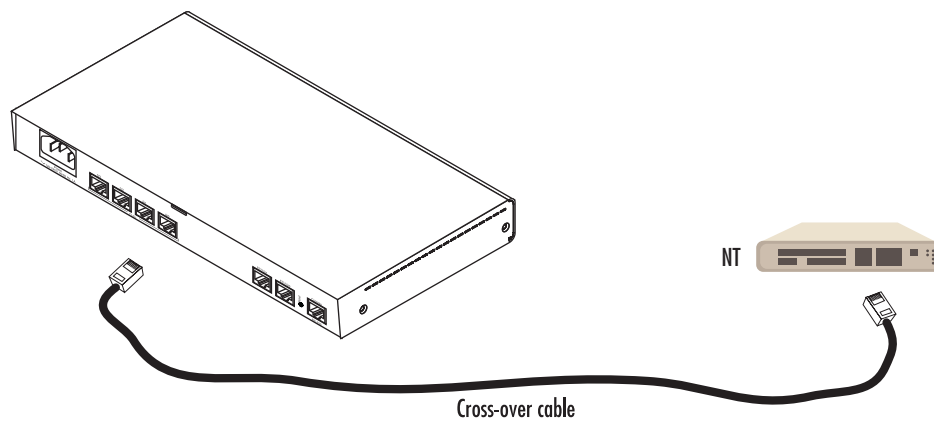

Figure 17. Connecting a T1 port to an NT device
The T1 Port is usually connected to a PBX or switch—local exchange (LE). Type and pin outs of these devices vary depending on the manufacturer. In most cases, a straight-through RJ-45 to RJ-45 can be used to connect the T1/E1 with a PBX. A cross-over cable is required to connect to an NT device, as illustrated in figure 17 on page 45.